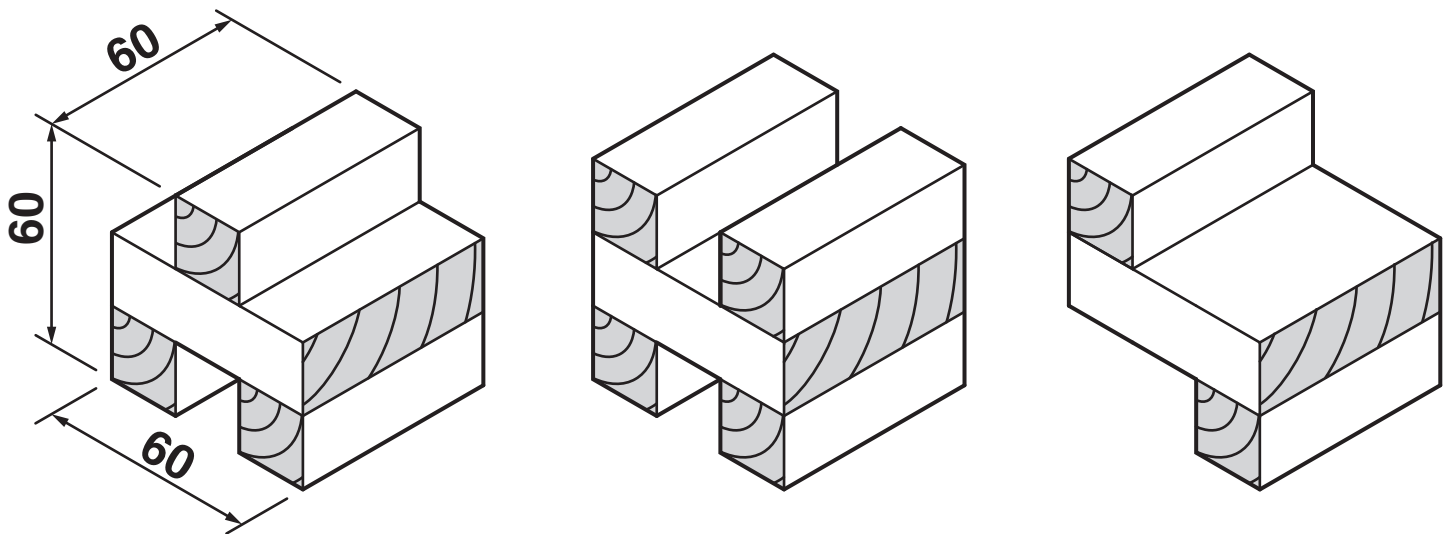

Fig. 4
- 4 Fig. 4 shows three building blocks that are part of a set used by children.
- (c) The building blocks shown in Fig. 4 could have been designed using drawing instruments or CAD. Give TWO advantages, other than speed, of using CAD to design the building blocks.